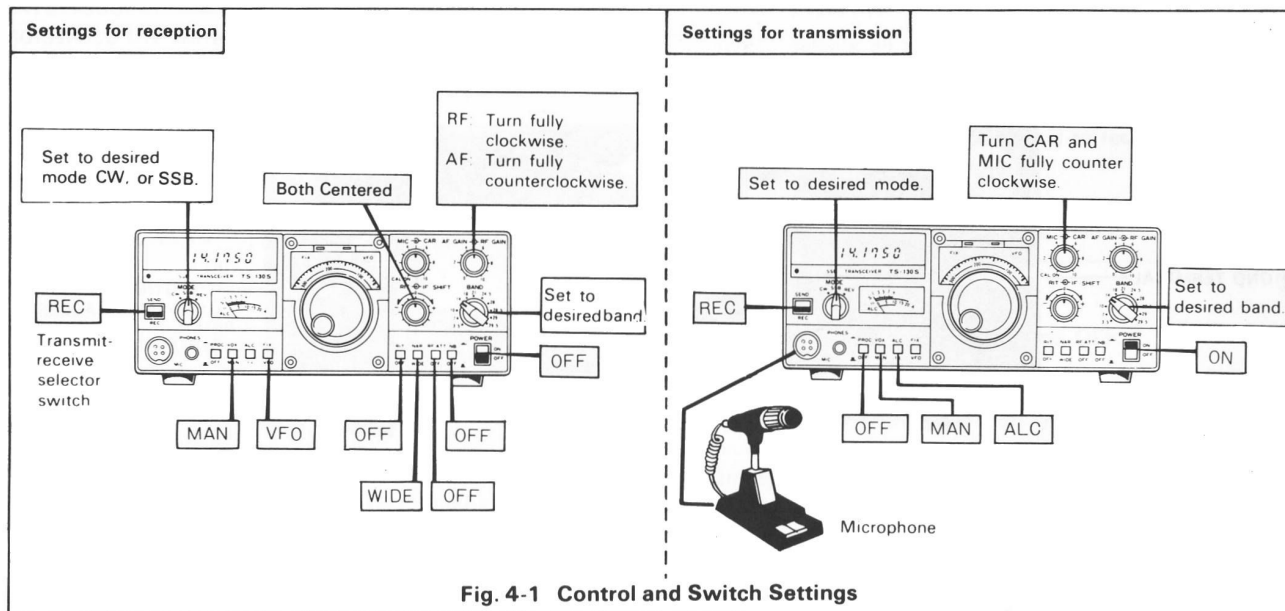

Fig. 4-1 Control and Switch Settings
First connect the antenna, microphone and key. Then, set the controls and switches referring to Fig. 4-1.
When testing the transmitter, connect a 50-ohm dummy load, rated at more than 100W (TS-130S), or 10W (TS-130V). Refer to Fig. 4-1 for initial control settings. When the TS-130S(V) is ready for transmission, use the following procedure: